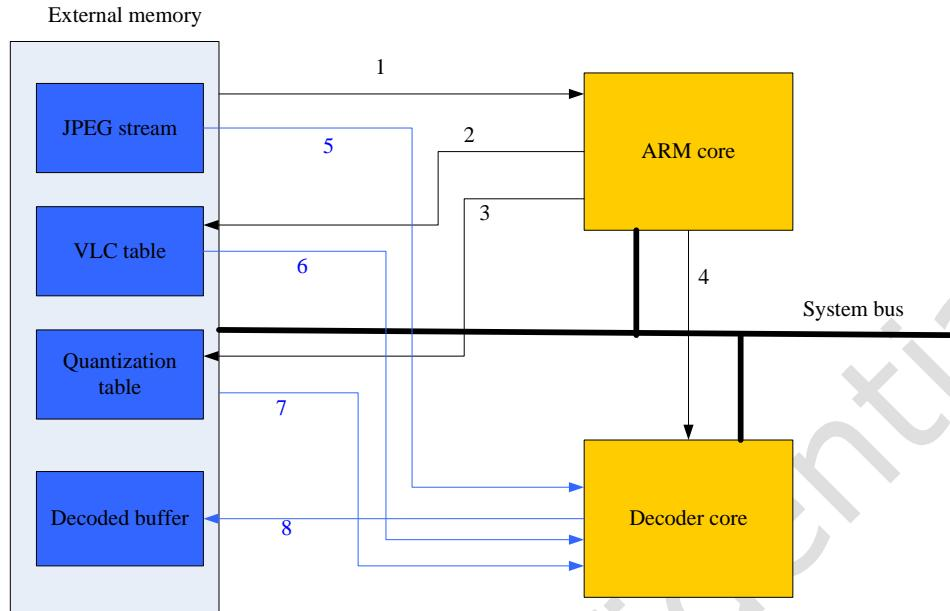

Fig. 5-18 The dataflow of JPEG decoder
The data flow of jpeg decoder is as Fig. 5-18 shown. The decoder software starts decoding the picture by parsing the stream headers (1) and then writes the following items to external memory: